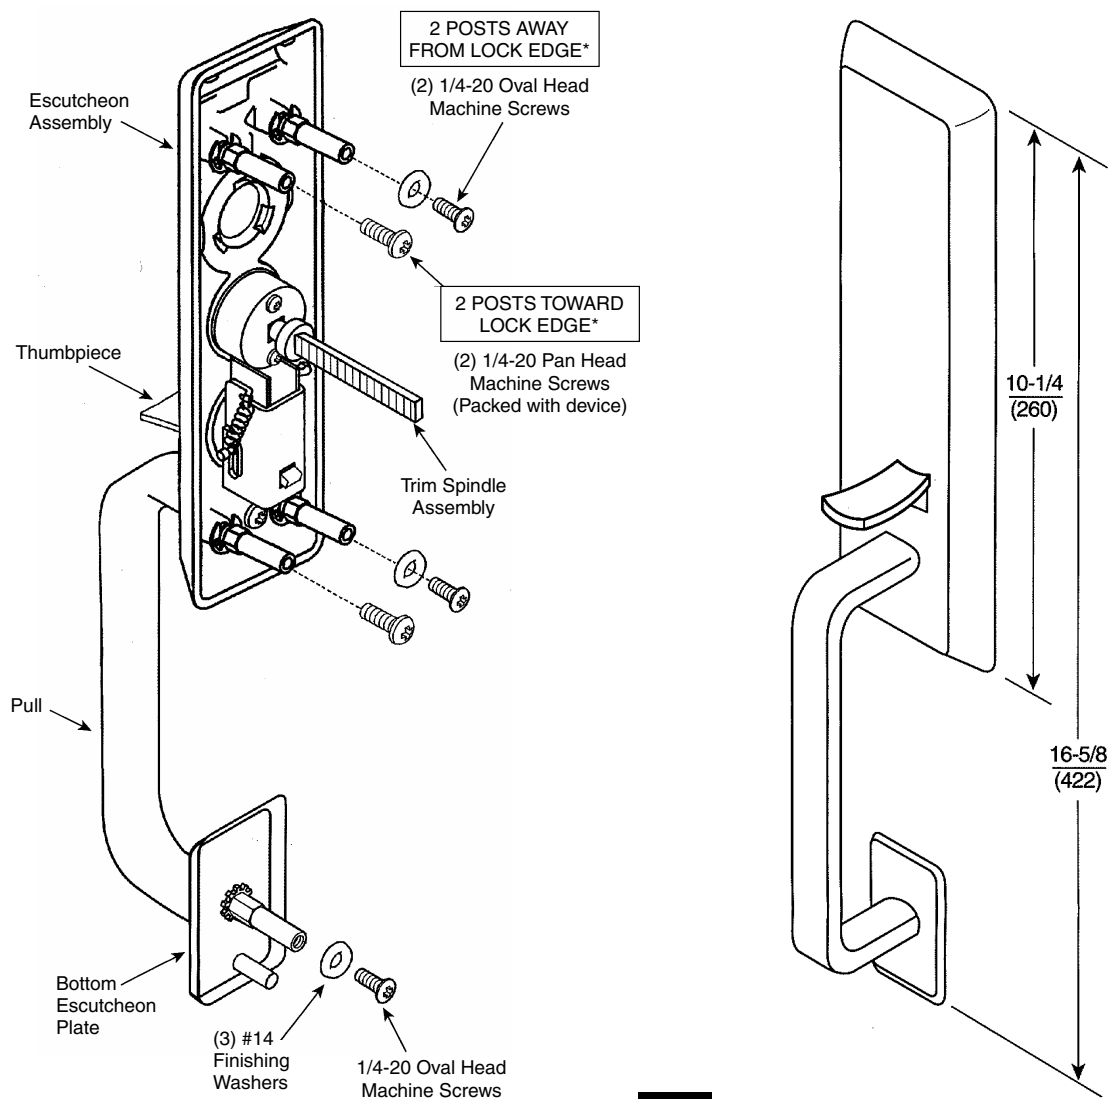

Figure 1
1. Check box contents. (Figure 1)